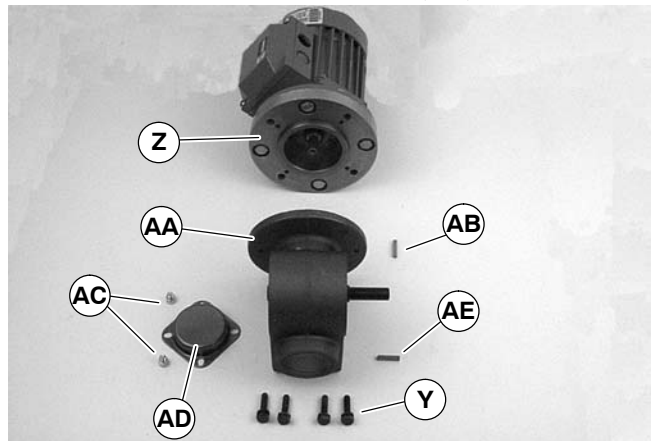

Figure 21
5. Remove four screws (Y of Figure 21). Detach motor with adapter flange (Z) from gear reducer (AA). Retain motor output shaft key (AB).
- With key (AB of Figure 21) in keyway, slide motor with adapter flange (Z) and gear reducer (AA) together. Install screws (Y) and tighten.